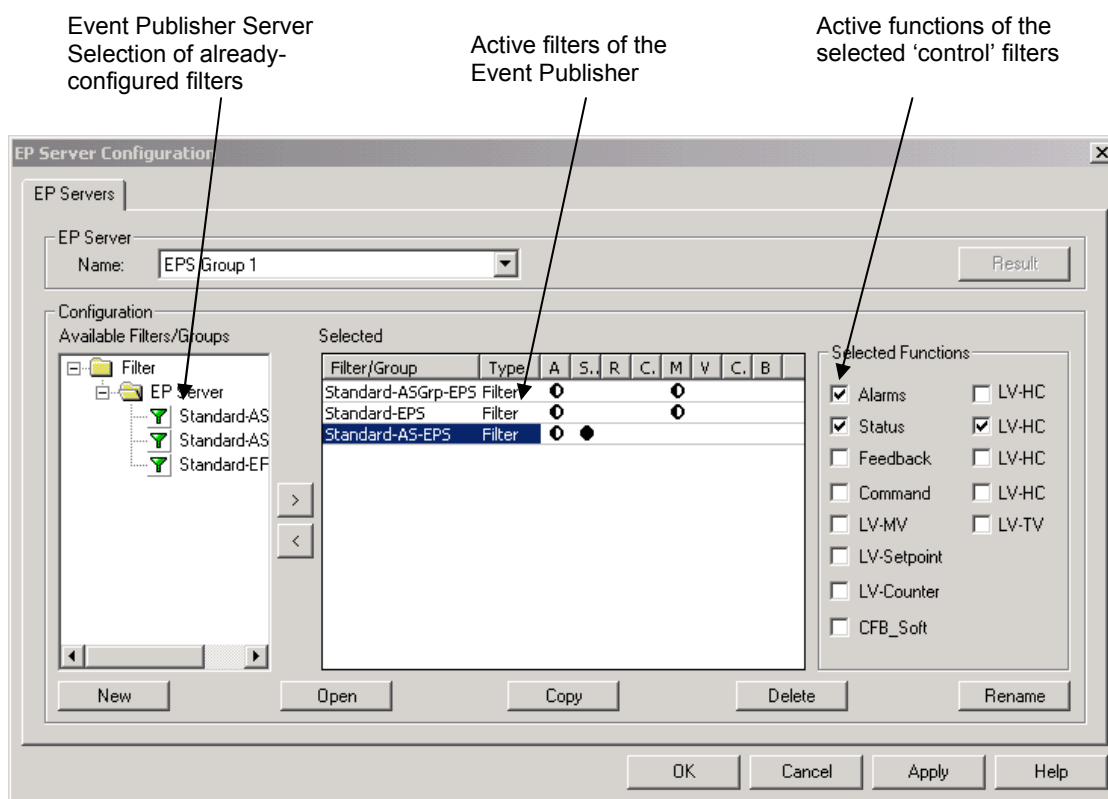

Fig. 5-2: EPServer configuration
- 1) The 'New' button of the 'EP Server Configuration' window (see Fig. 5-2) opens the 'filter parameterising' window. Choose between an address filter, an AS monitoring filter and an AS group filter. The relevant parameterising window then opens (see Chapter 3.3.1, 3.3.2 and 3.3.3).
The newly parameterised filters are filed automatically in the 'Filter/System Group Filter' folder and are shown under 'Available filters/LG' in the 'EP Server configuration' window (see Fig. 5-2).
(see Fig. 5-2 EP Server configuration selected filter 'temperatures')
All active filters of the Event Publisher server are listed in the 'EPS-Filter/LG' field of the 'EP Server configuration' window (see Fig. 5-2 EP Server configuration). Symbols show the functionality of the addresses (Table 10).